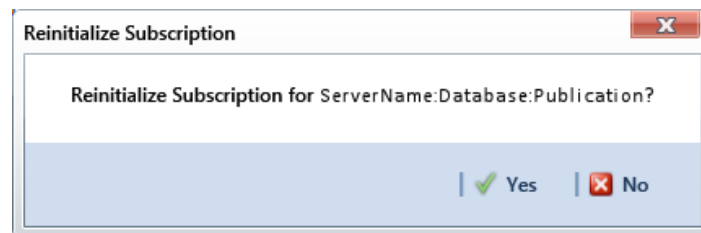

Figure 17-14. Reinitialize Subscription
- 4 Click  **Yes** when the message *Reinitialize Subscription* displays (Figure 17-14).